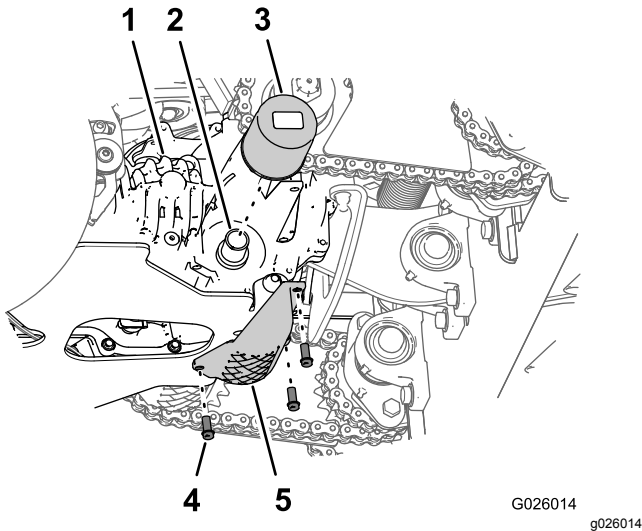

Figure 59
3. Remove the 3 washer-head bolts (1/4 x 3/4 inch) that secure the filter guard to the transmission, and remove the guard (Figure 59).
4. Clean the around the transmission filter (Figure 59).
6. Rotate the filter counterclockwise and remove the filter (Figure 59).
8. Install the filter by rotating it clockwise onto the filter adapter until the seal contacts the base of the adapter, then tighten the filter an additional 3/4 to 1 turn (Figure 59).
9. Install the filter guard with the 3 washer-head bolts (1/4 x 3/4 inch) that you removed in step 3 (Figure 59), and tighten the bolts to 1117 to 1243 N·cm (90 to 110 in-lb).